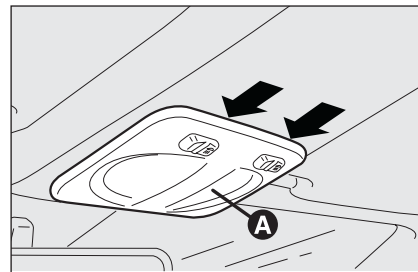
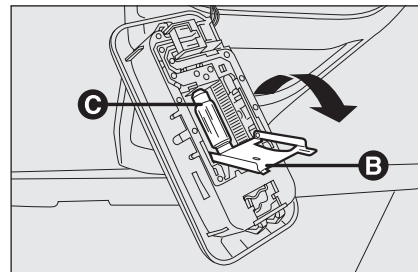

fig. 26
fig. 27
- work in the points shown by the arrows and remove light **A-fig. 26**
- replace bulbs **C-fig. 27** releasing them from the side contacts; make sure that new bulbs are correctly clamped between contacts;
- re-close the lid **B-fig. 27** and secure light **A-fig. 26** into its housing locking it properly.